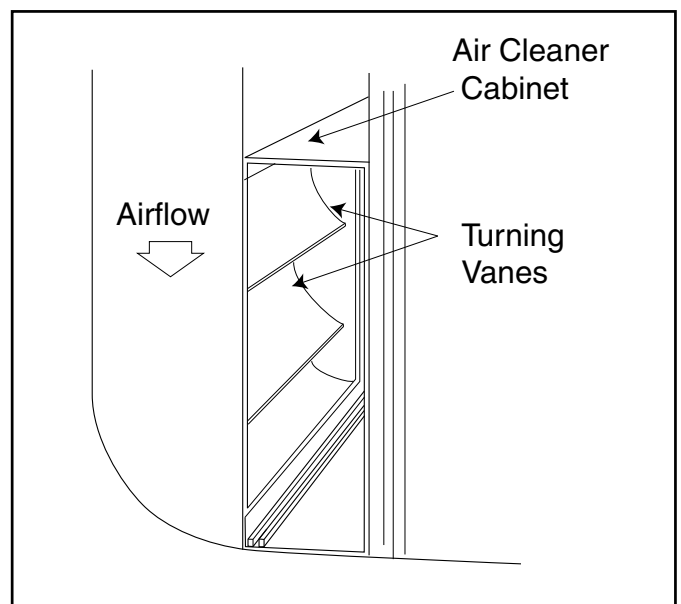

Figure 8 Turning Vanes
7. It is recommended that sheet metal turning vanes be installed inside an elbow on ductwork attached to the entering airstream side of the air cleaner. This improves the air distribution over the COLLECTION CELLS. See Figure 8.
NOTE: It is recommended that sheet metal turning vanes be installed inside an elbow on ductwork attached to the entering airstream side of the air cleaner. See Figure 8 on Page 4.